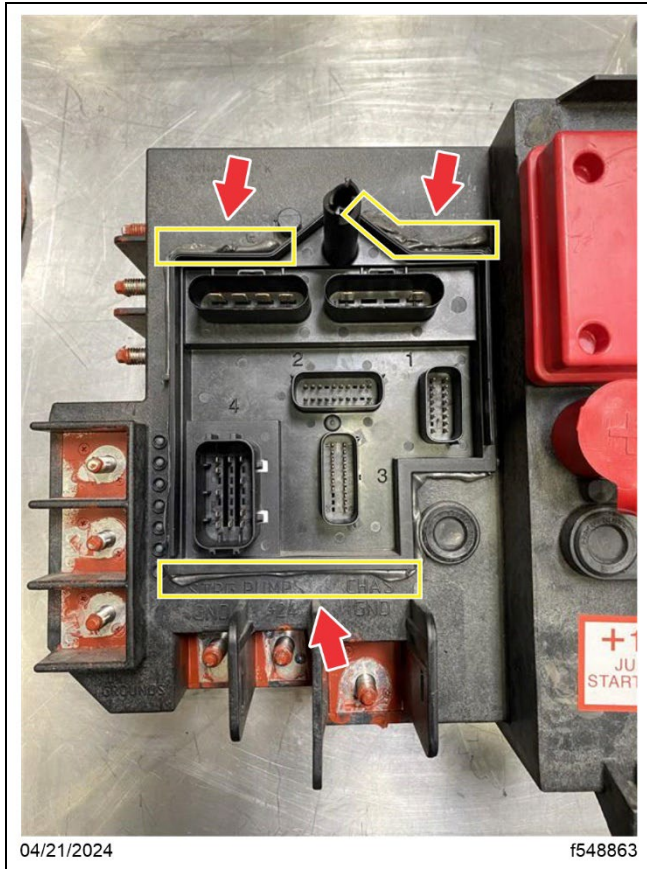
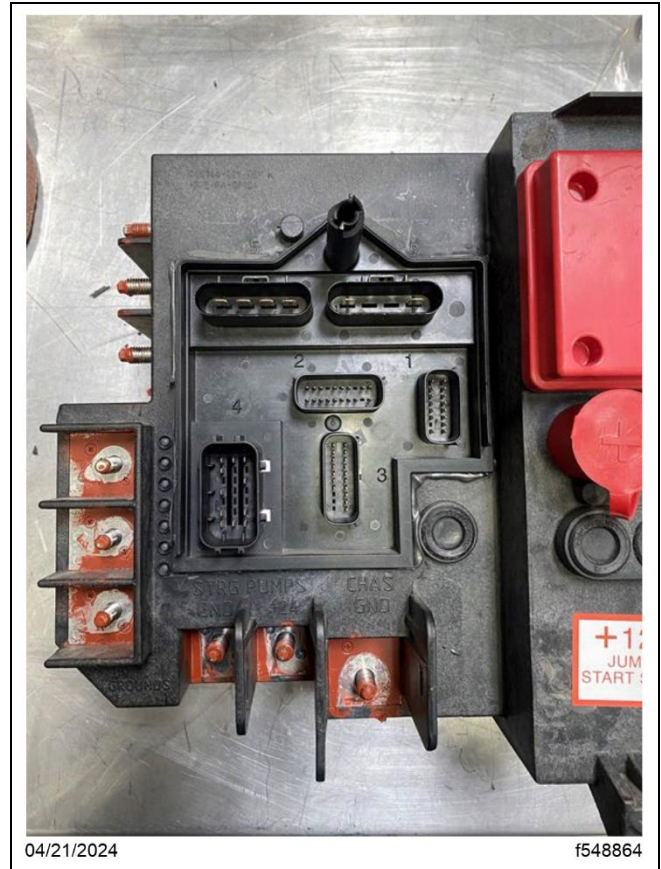

Fig. 5, Excess Sealant to be Removed Around the Connector Plate
Fig. 6, Sealant Removed
9. Cut away the excess sealant around the connector plate in the areas where the brackets attach. See Fig. 5 and Fig. 6.